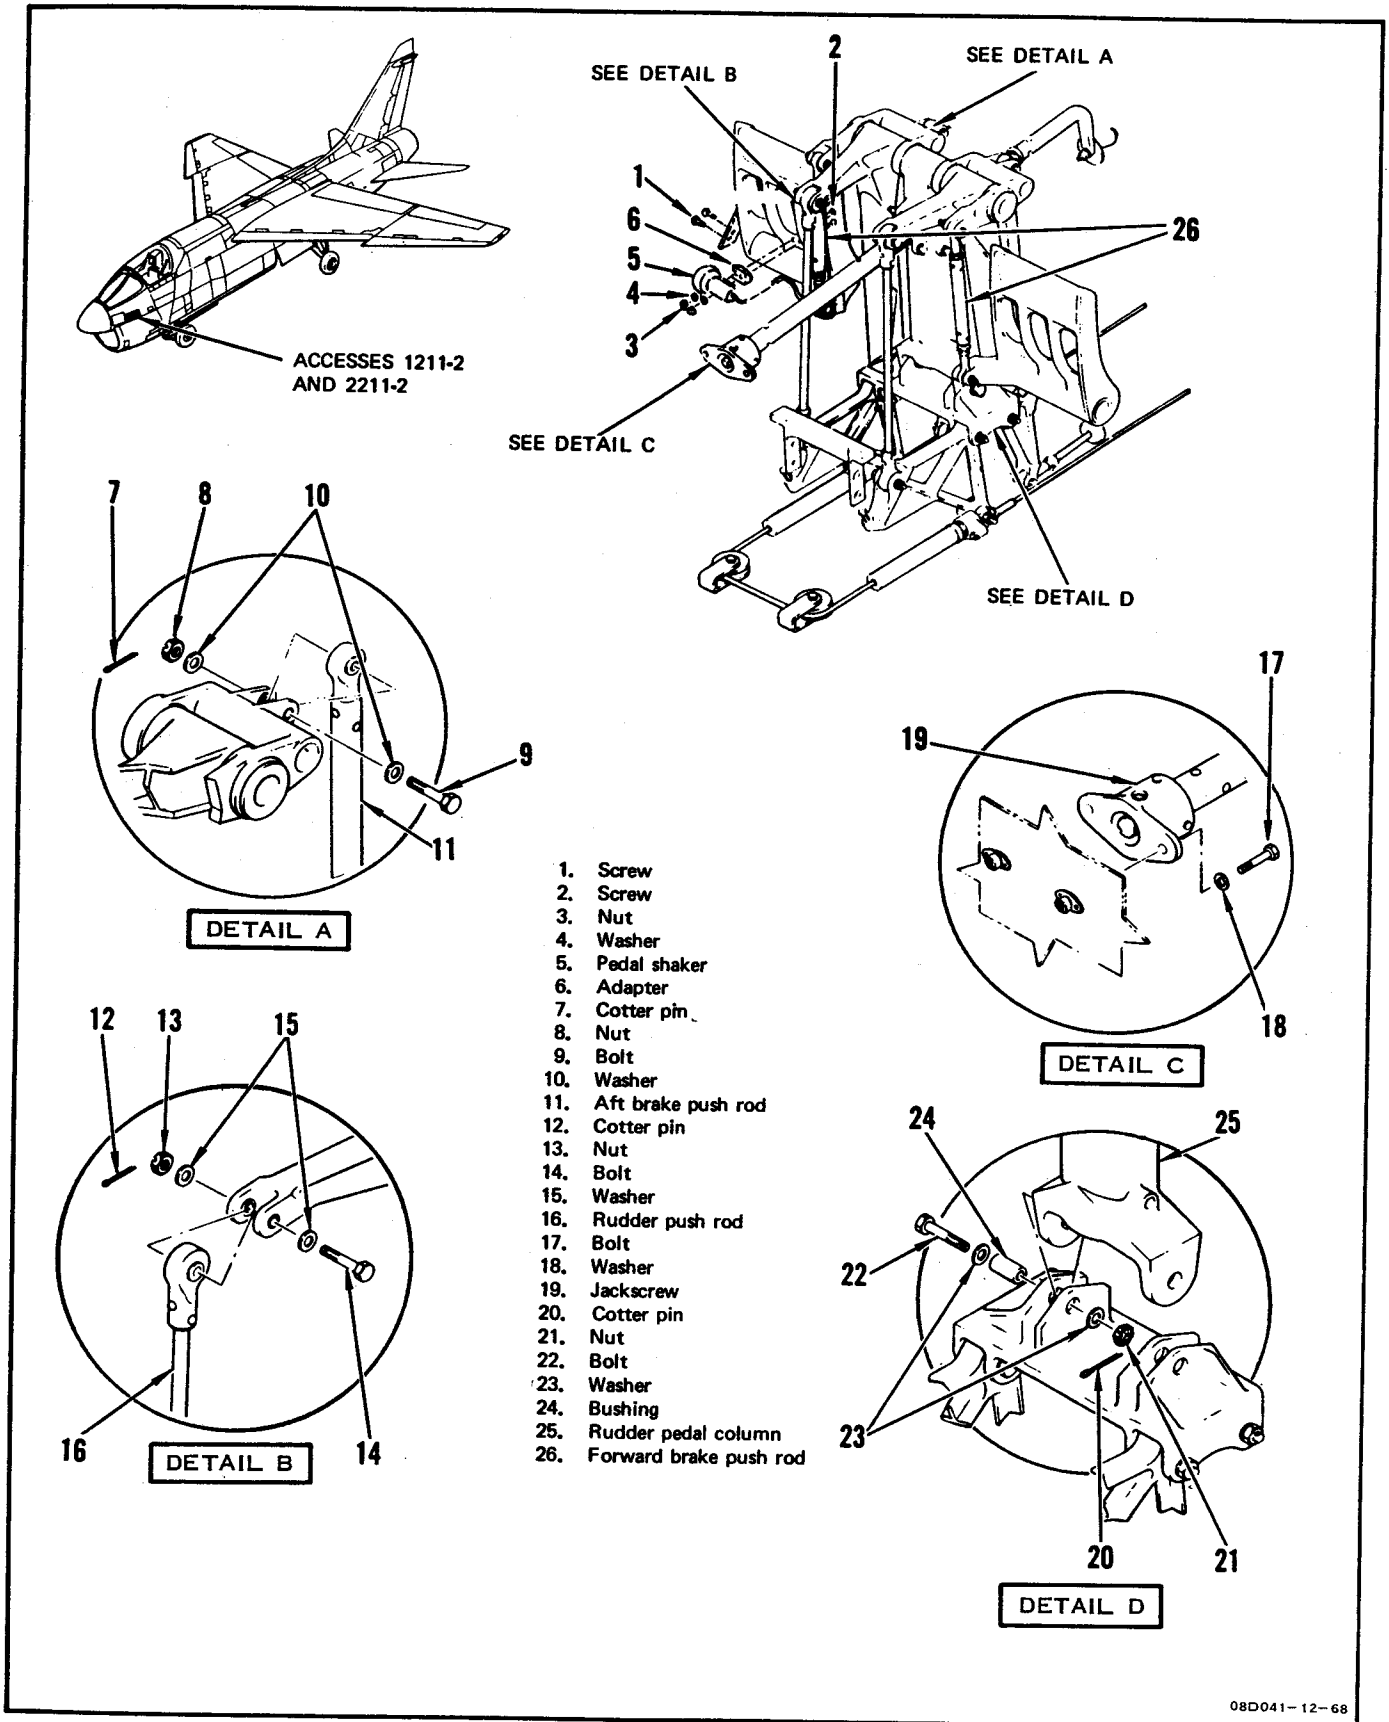

Figure 5-8. Rudder Pedal Assembly Removal and Installation
**5-38. REMOVAL. (See figure 5-8.)**
- c. Remove screws (1) securing rudder pedal shaker to bracket.
- d. Remove screws (2), nuts (3), washers (4), rudder pedal shaker (5), and adapter (6).
- f. Remove cotter pin (7), nut (8), bolt (9), and two washers (10) from upper end of aft brake pushrod (11).
- g. Remove cotter pin (12), nut (13), bolt (14), and two washers (15) from upper end of rudder pushrod (16).
- i. Remove bolts (17) and washers (18) from jackscrew (19).
- j. Remove cotter pin (20), nut (21), bolt (22), washers (23), and bushing (24) from rudder pedal column (25) at pivot point.
5-39. INSTALLATION. (See figure 5-8.)